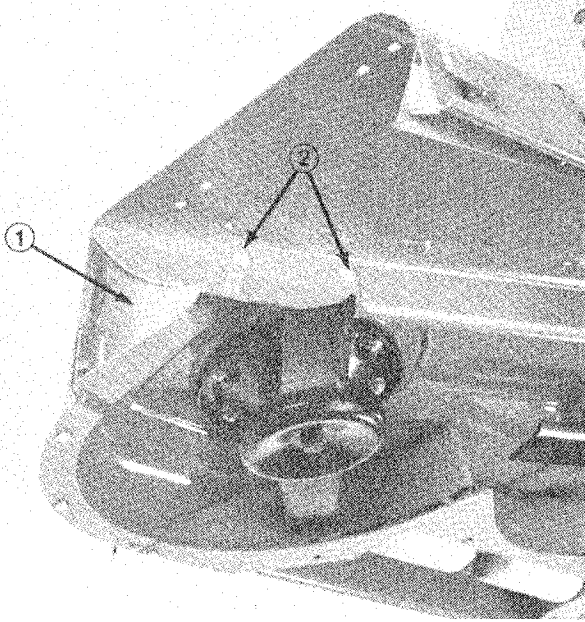

Figure 6
4. Align rear baffle with corner of discharge opening as shown (Fig. 6).
5. Using baffle as a template, mark and drill (3) 3/8" dia holes thru deck.
6. Secure baffle to deck with (2) 5/16 x 3/4" carriage bolts, (1) 5/16-18 x 7/8" capscREW and (3) lock nuts (Fig. 6).